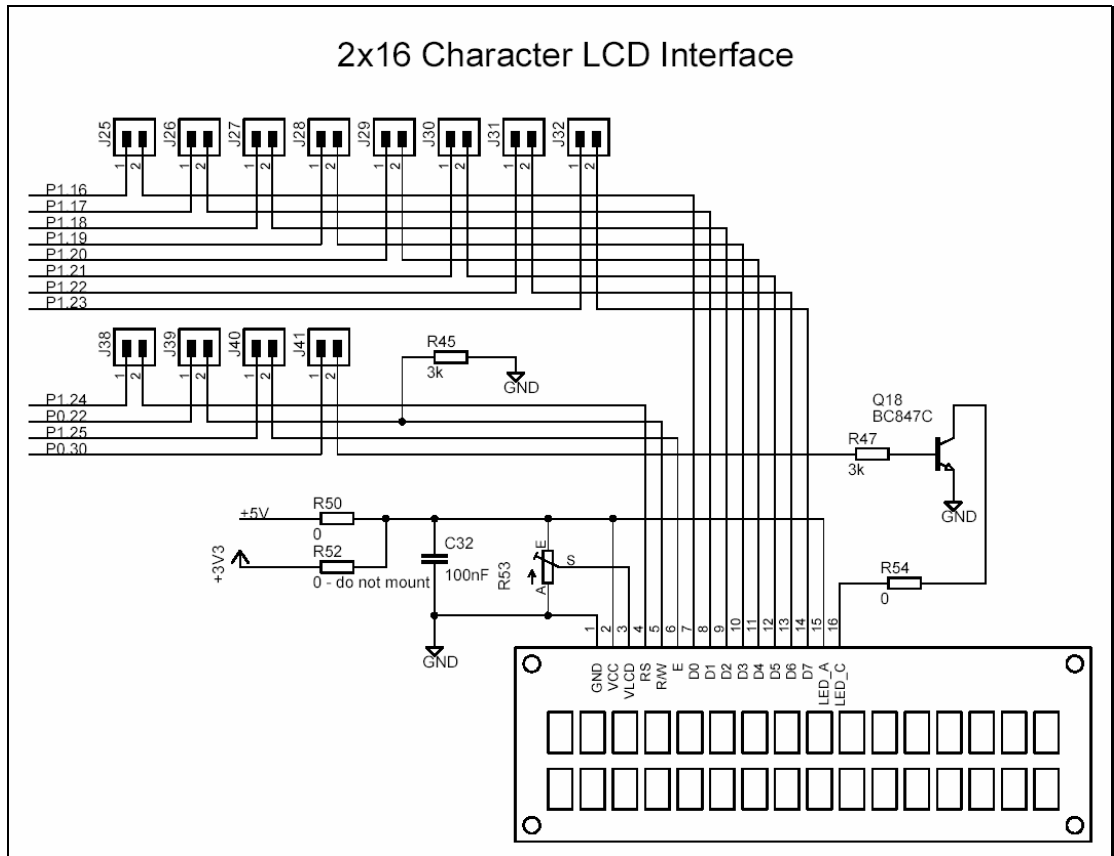

Figure 20 - LPC2148 Education Board Schematic, page 3: 2x16 Character LCD
*Figure 20* below illustrate the LCD part of the design and which pins are used for the interface. All pins can be disconnected from the interface if needed, via jumpers J25 – J32 and J38 – J41. The LCD is powered from the +5V power supply but there is an option to power it from the +3.3V power supply. +5V power is no problem since all pins on the LPC2148 are +5V tolerant and a high logic level from the CPU (powered by +3.3V) is also interpreted as a high logic level by the LCD. Display contrast is adjusted via trim-potentiometer R53.